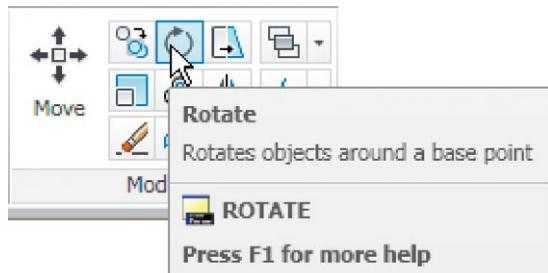

Fig. 5.26 The **Rotate** tool icon from the **Home/Modify** panel
2. Call **Rotate** – left-click on its tool icon in the **Home/Modify** panel (Fig. 5.26), pick **Rotate** from the **Modify** drop-down menu or *enter ro* or **rotate** at the command line. The command line shows: and the first copy rotates through the specified angle.